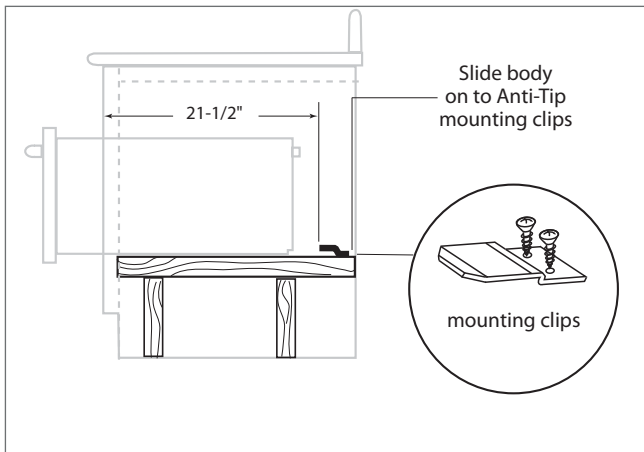

Fig. 11
The bottom rear section of the cabinet should be made of solid plywood or two 2x4 beam. It holds the anti-tip mounting clips and supports the weight of Warming Drawer, which is 90 lbs. (see Fig. 11 and 12). If two 2x4 beams are used, the distance between their centers must be 20" to be able to secure the Warming Drawer.
1. Use the screws provided and attach the mounting clips. They must be installed for anti-tip safety to the bottom support at the back. See placement dimensions in figure below (see Fig. 11).